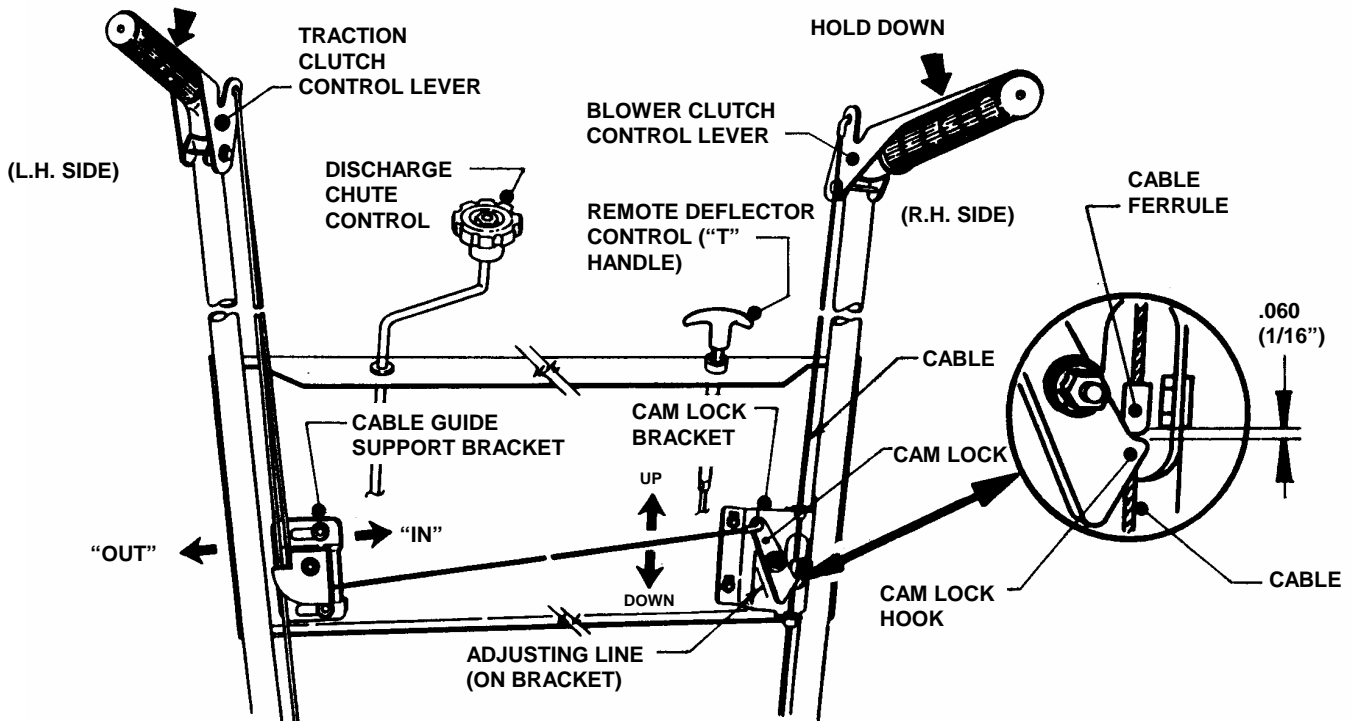

FIGURE 4.9
1. Hold the wheel drive control lever down against the handle. See Figure 4.9.
5. Check the position of the cable ferrule in relation to the cam lock. The ferrule must be located $1/16''$ (.060) above the hook of the cam lock. To adjust, loosen the three nuts that secure the cam lock bracket. Slide bracket up or down until correct measurement is achieved. Retighten nuts securely. See Figure 4.9.